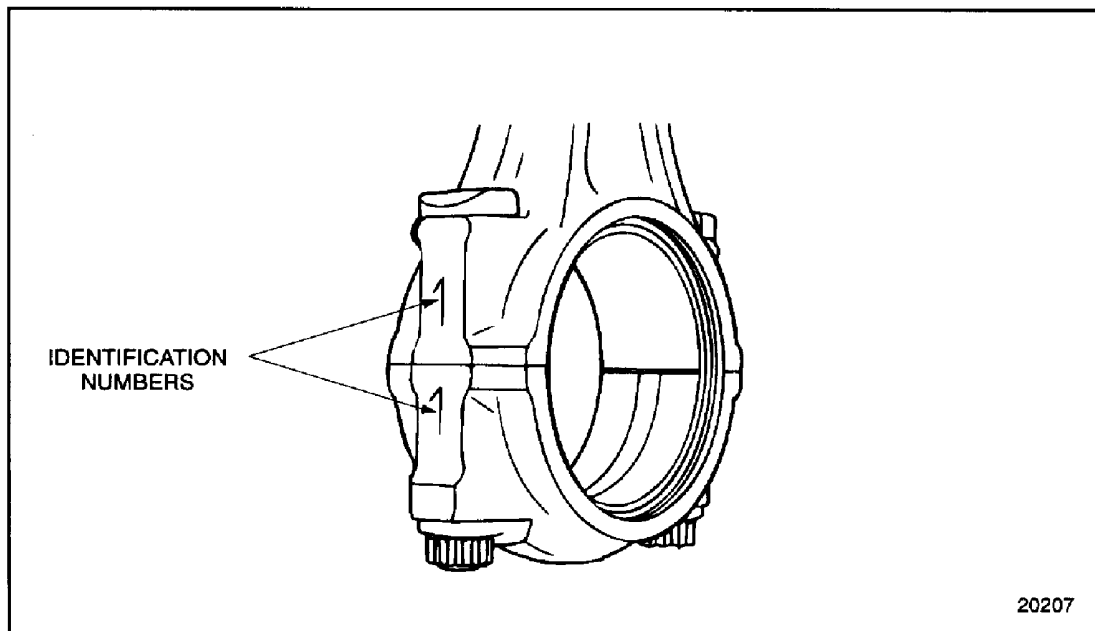

Figure 1-240 Connecting Rod and Cap Identification
8. Assemble the bearing cap and lower bearing shell to the connecting rod after removal. If not already marked, match-mark the rod and cap (on the tang side) with the cylinder No. where they were removed. See Figure 1-240.